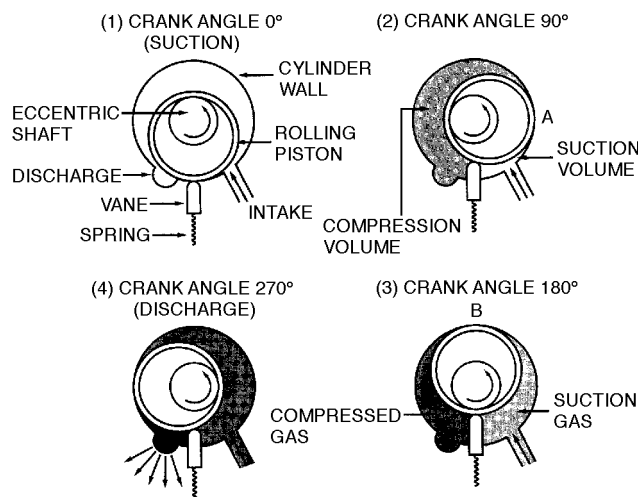

FIGURE 33 — ROTARY COMPRESSOR COMPRESSION PROCESS
The rotary compression process (Figure 33), starts at top dead center as shown in (1). Suction gas flows through the suction inlet and into the cylinder area. As the shaft rotates through 90 degrees, the rolling piston moves to position A as shown in (2). The suction volume is now the area defined by point A and the tip of the vane. Gas in the remaining volume has been compressed above suction pressure. After another 90 degrees of shaft rotation, the rolling piston has moved to position B as shown in (3). Both the compressed gas and suction gas volumes are now equal. Another 90 degrees of shaft rotation is shown in (4). Compressed gas has reached a pressure sufficient to open the discharge valve, and flows from the cylinder into the compressor shell. After another 90 degrees of shaft rotation, the entire process begins again. Continuous suction and discharge allows for a smooth compression process.